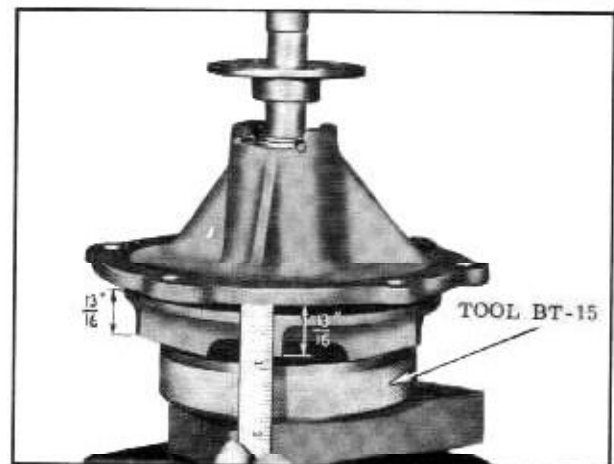

Fig. 8-64 Installing Impeller
6. Using Tool BT-15 to support impeller, press bearing shaft through impeller until bottom edges of vanes are $13/16''$ from machined face at edge of housing. (Fig. 8-64)